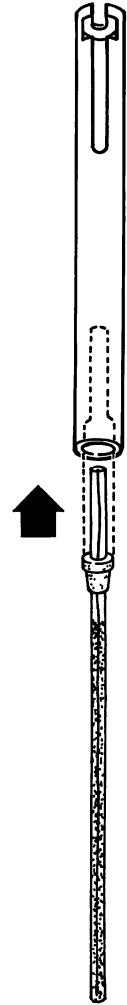

Figure 8b.
5. Once the tube has been inserted into the grommet, you may use the tube gel installer tool to adjust the grommet to its specified position on the tube (Figure 8b).